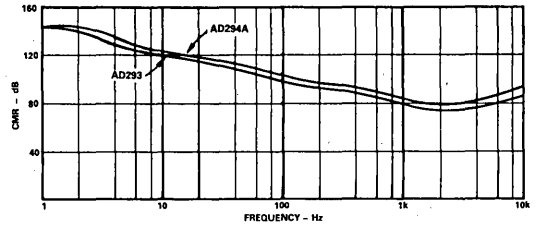

Figure 6. Typical AD293/AD294 - CMR vs. Frequency
**Common Mode Rejection:** Input-to-output CMR is dependent on source impedance imbalance, input signal frequency and amplifier gain. CMR is rated at 115V ac, 60Hz and 1kΩ (AD293)/5kΩ (AD294) source impedance imbalance at a gain of 1V/V. Figure 6 illustrates the CMR vs. frequency characteristics for the AD293/AD294. CMR approaches 144dB at dc with sources impedance as high as 1kΩ(AD293)/5kΩ (AD294).